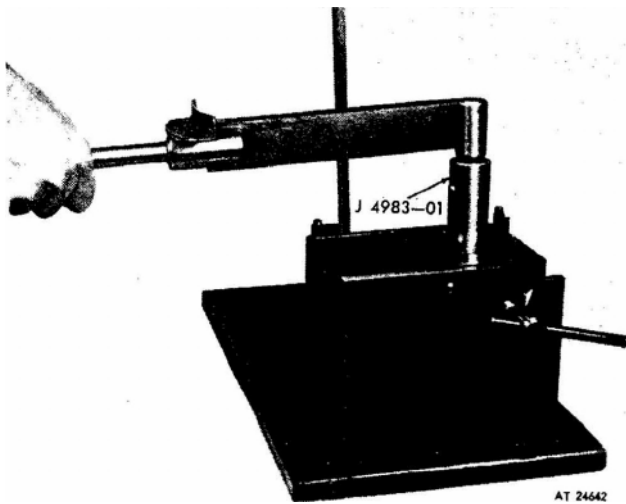

Figure 34. Tightening injector nut with torque wrench.
8. Use socket J 4983-01 and a torque wrench and tighten the injector nut to 75-85 lb-ft torque (fig. 34).